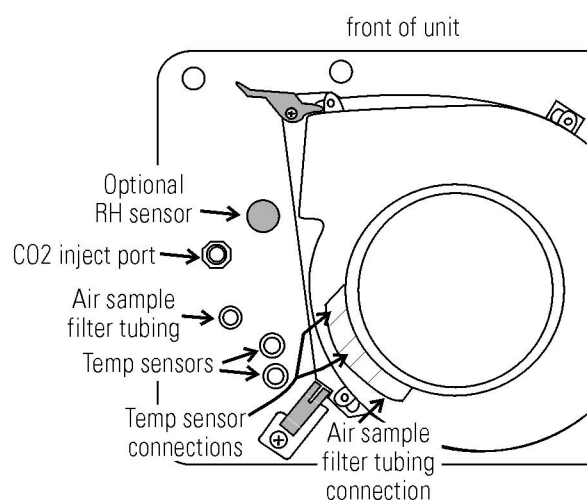

Figure 5-4. Underside View of Chamber Ceiling
On I/R incubators, the red light on the I/R module (see Figure 5-4 for the module circuit board location) is lit continuously if communication is lost between the CO₂ board and the sensor head. The CO₂ display is locked at 00.0 without injection. Turning the incubator off and on will not clear the alarm. Only proper connections of all the components corrects the alarm.
15. Carefully pull the temperature sensors and air sample filter tubing down until they can be inserted approximately 1 inch into the appropriate holes in the back of the blower scroll. If applicable, place the optional RH sensor into the corresponding clip on the top duct. See Figure 5-4.